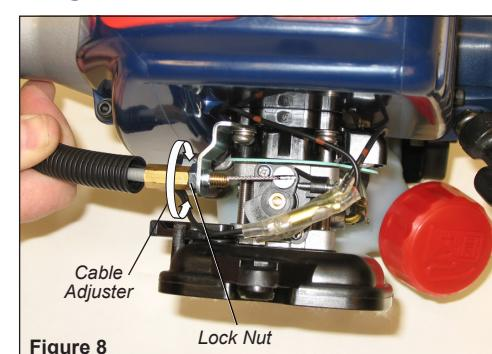

Figure 7
1. Remove the air cleaner cover by loosening the two thumbscrews. See Figure 7.